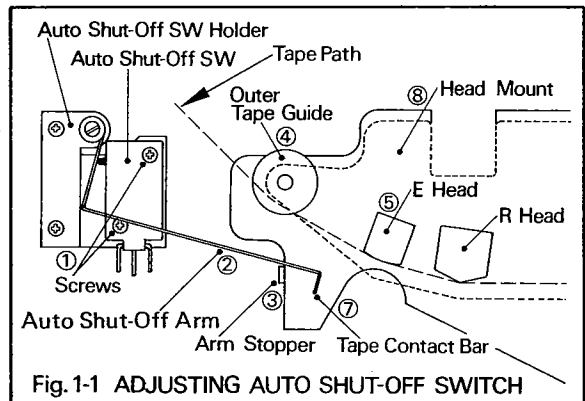
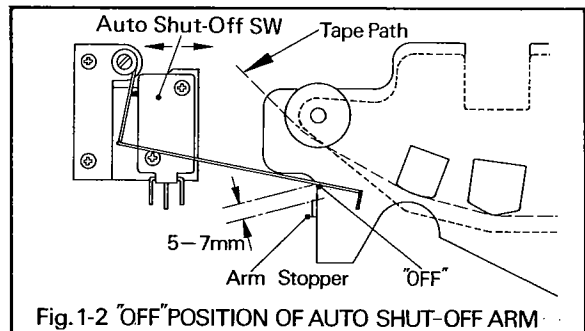

Fig. 1-1 ADJUSTING AUTO SHUT-OFF SWITCH
Fig. 1-2 "OFF" POSITION OF AUTO SHUT-OFF ARM
2. With the front panel removed, you will see the auto shut-off mechanism near the LEFT TENSION ARM (5). (See Figure 1-1.)
3. Check that the TAPE CONTACT BAR (7) of the AUTO SHUT-OFF ARM (2), when pushed upward by a finger, stays between the OUTER TAPE GUIDE (4) and the ERASE HEAD (5).
4. Push the AUTO SHUT-OFF ARM upward by a finger again and release it to check the point where the auto shut-off mechanism is activated. You will hear a click sound when the mechanism is activated. See that the point is 5 to 7mm away from the AUTO SHUT-OFF ARM STOPPER (3). (See Figure 1-2.) If the position is not within the specified tolerance, loosen the AUTO SHUT-OFF SWITCH SCREWS (1) and adjust the AUTO SHUT-OFF SWITCH and AUTO SHUT-OFF ARM accordingly. When the adjustment is finished, push the AUTO SHUT-OFF ARM upward again and see that the ARM does not touch the OUTER TAPE GUIDE or the ERASE HEAD MOUNT.